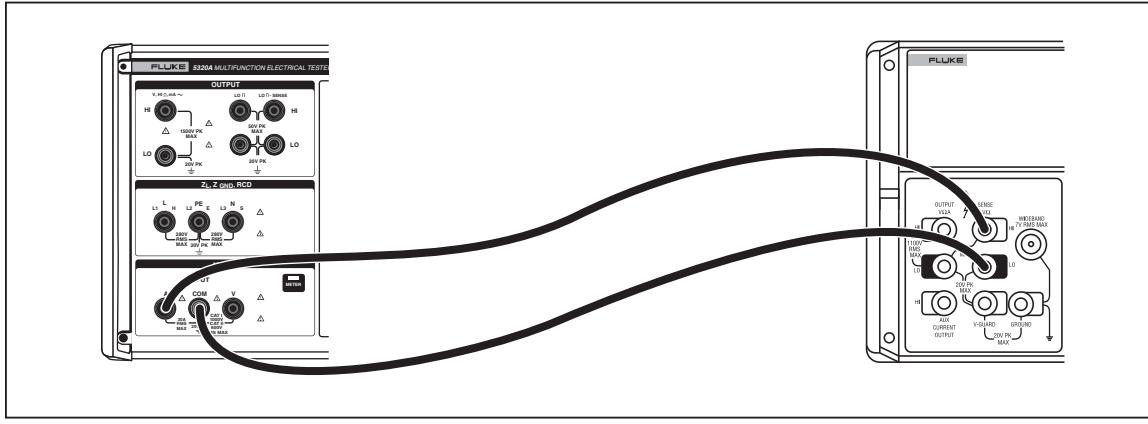

Figure 3-15. DC Multimeter Current Calibration Connections
11. Connect the multifunction calibrator to the Calibrator's output terminals as shown in Figure 3-15.